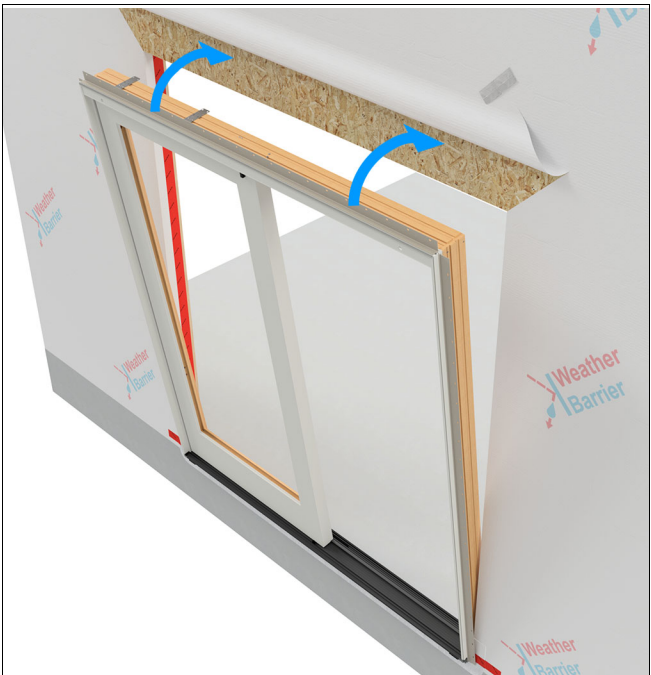
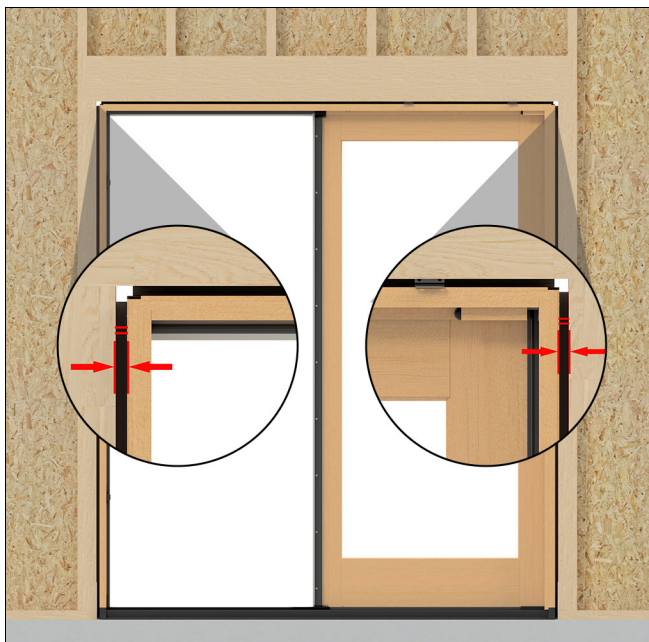

Figure 19
Figure 20 Center the door in the opening
2. Tip the door into the opening and center it in the opening. See Figure 19 and Figure 20.